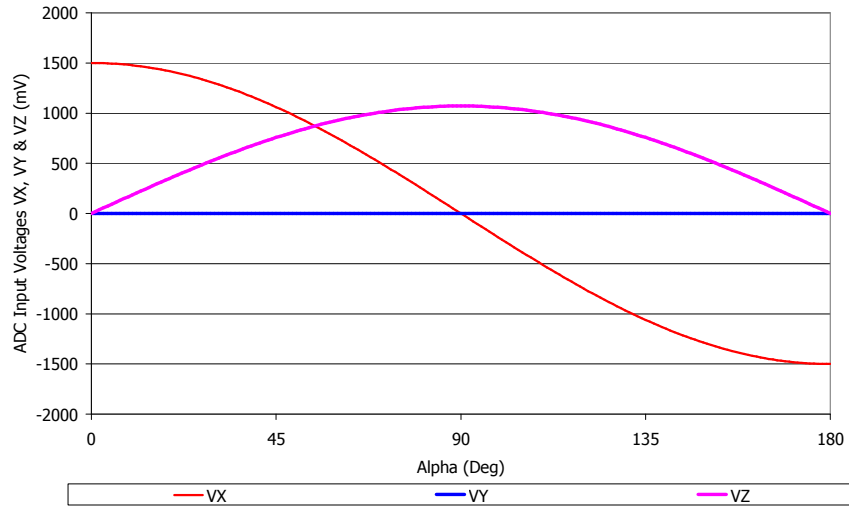
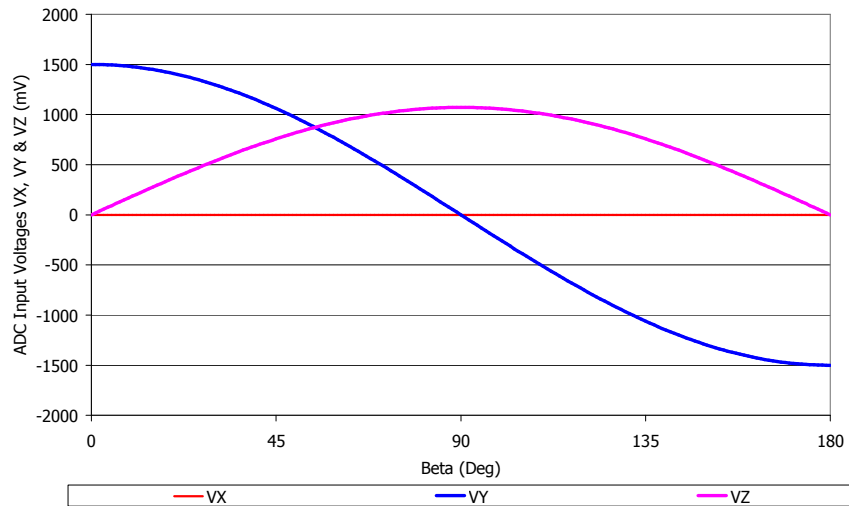

Figure 8 – ADC Input Signals –  $\beta = 90$  Deg –  $V_X \propto B_X \propto \cos(\alpha)$ ,  $V_Y = B_Y = 0$  &  $V_Z \propto B_Z \propto \sin(\alpha)$
Figure 9 – ADC Input Signals –  $\alpha = 90$  Deg –  $V_X = B_X = 0$ ,  $V_Y \propto B_Y \propto \cos(\beta)$  &  $V_Z \propto B_Z \propto \sin(\beta)$
Three (3) differential voltages corresponding to the three (3) components of the applied flux density are provided to the ADC (Analog-to-Digital Converter – Figure 8 and Figure 9). The Hall signals are processed through a fully differential analog chain featuring the classic offset cancellation technique (Hall plate quadrature spinning and chopper-stabilized amplifier).